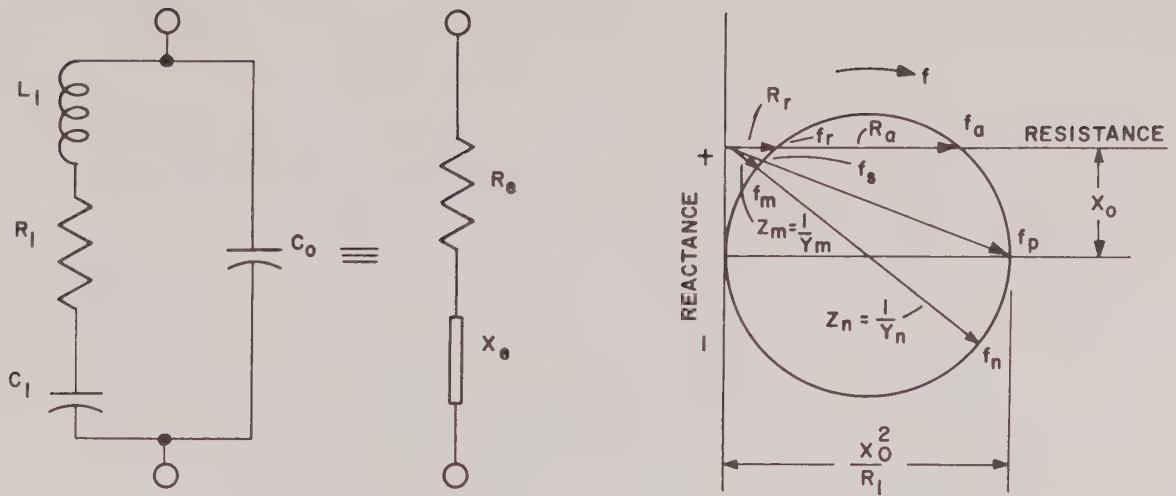

Figure 3. Equivalent Electrical Circuit Of A Piezoelectric Crystal.
c. **Properties of Piezoelectric Resonator** — A good piezoelectric resonator possesses the following properties: 1 low-temperature coefficient of resonant frequency, a high piezoelectric activity (performance index), and a frequency spectrum containing only one resonant frequency in the vicinity of the desired oscillation. Temperature can alter the frequency of mechanical resonance through its effects on the density, the linear dimensions, and the module of elasticity of the crystal. Since some of the elastic constants are positive and others negative, the temperature coefficient of frequency may be either positive, negative, or zero, according to the mode of oscillation, the orientation of the crystal plate and the shape of the plate. The electrical circuit associated with a vibrating crystal is shown in Figure 3. The capacity, C_0 , represents the electrostatic capacity between the crystal electrodes when the crystal is in place but not vibrating; the series combination of L , C , and R represents the equivalent mass, compliance and frictional loss of the vibrating crystal, respectively. Read TM 11-2540 for more detailed information on this subject.
or an r-f bridge, be careful to select a frequency of operation somewhat lower than the crystal unit frequency. Figure 3 shows a diagram of the parameters of a piezoelectric crystal.